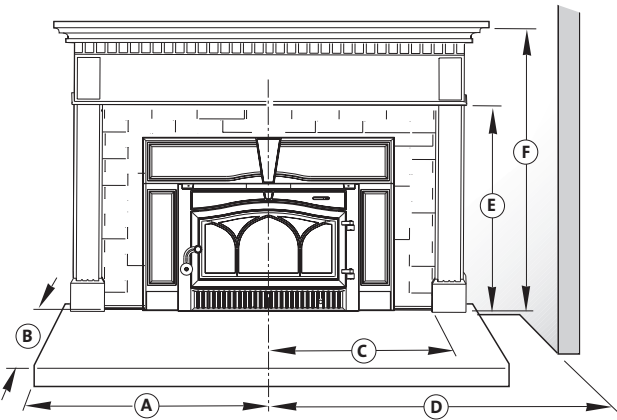

Figure 3.2. Minimum clearance to combustible materials.
U.S. & Canada: Side Protection: - Protection must extend a minimum 18 1/2 in. to both sides of the center line of the insert. See fig 3.2.